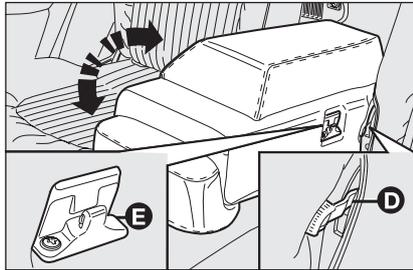

fig. 42
- operate the lever **D-fig. 42** (one per side)
To arrange the central unit back in vertical position, operate lever **D-fig. 42** again (one on each side) and realign the unit with the side backrests and make the safety clip **E**click.